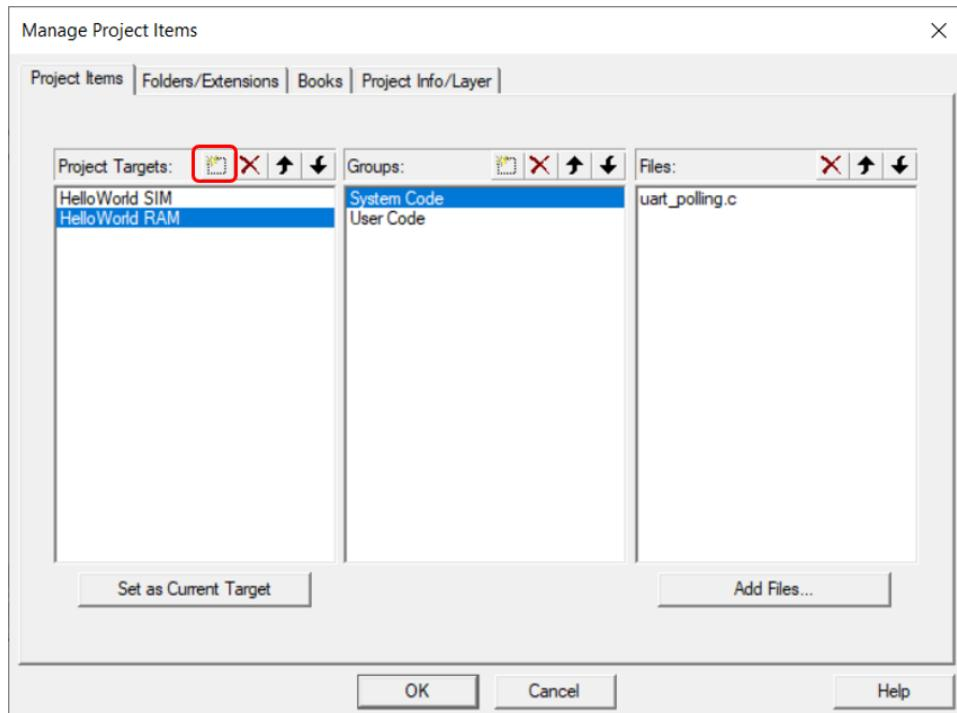

Figure 8.26: Keil IDE: Manage Project Items Window.
2. Press the New icon to create a new target and name it “HelloWorld RAM”(see Figure 8.26). The new target duplicates the HelloWorld SIM target configuration.